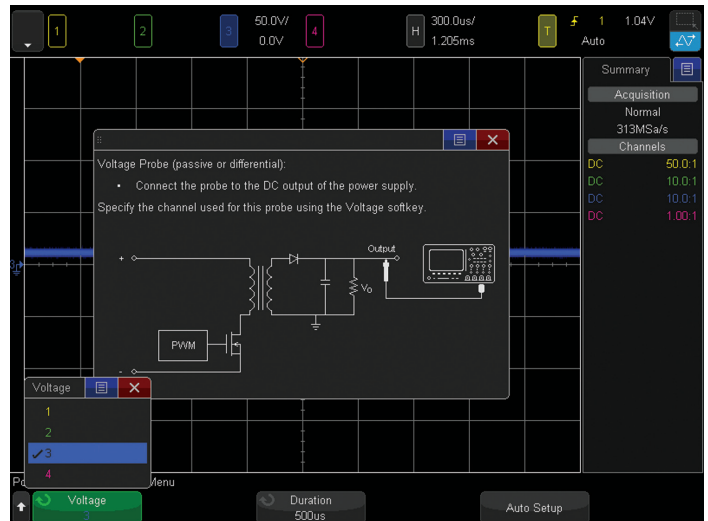

Figure 27: Output Ripple measurement connections diagram
5. Connect a standard 10:1 passive voltage probe between the scope's channel-3 input to the DC output signal and ground as illustrated in the on-screen connections diagram shown in Figure 27. If using Keysight's SMPS training kit, connect the 10:1 passive probe from channel-3 to TP5 (probe tip grabber) and TP6 (ground).